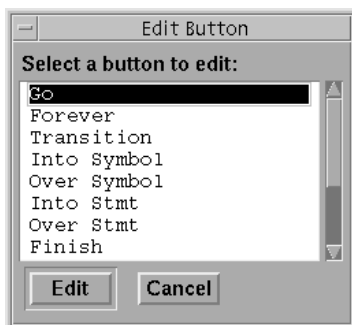

Figure 465: Selecting a button
1. Select *Delete* from the *Group* menu. A dialog similar to when editing a button is opened (see Figure 465).